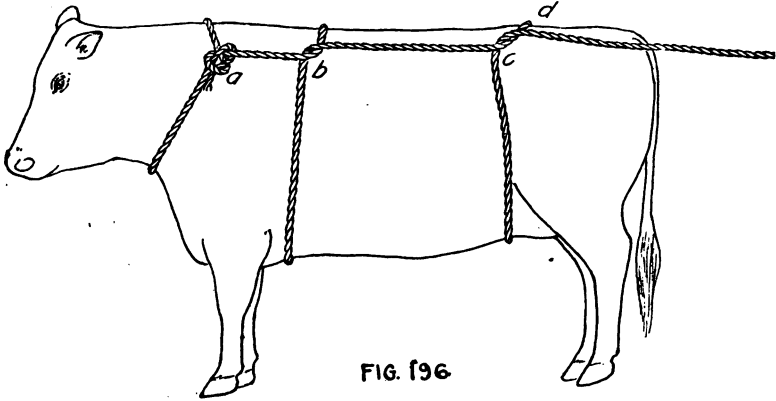

FIG. 196
**Casting Cattle.** For casting cattle, the method shown in the accompanying illustration (fig. 196) is simple and effective. A rope thirty-five or forty feet long is needed. Place one end around the animal's neck and tie it with a bowline knot (figs. 25 to 28). Next, pass the rope around the animal's body just back of the fore legs, making a half hitch over the withers at *b*.